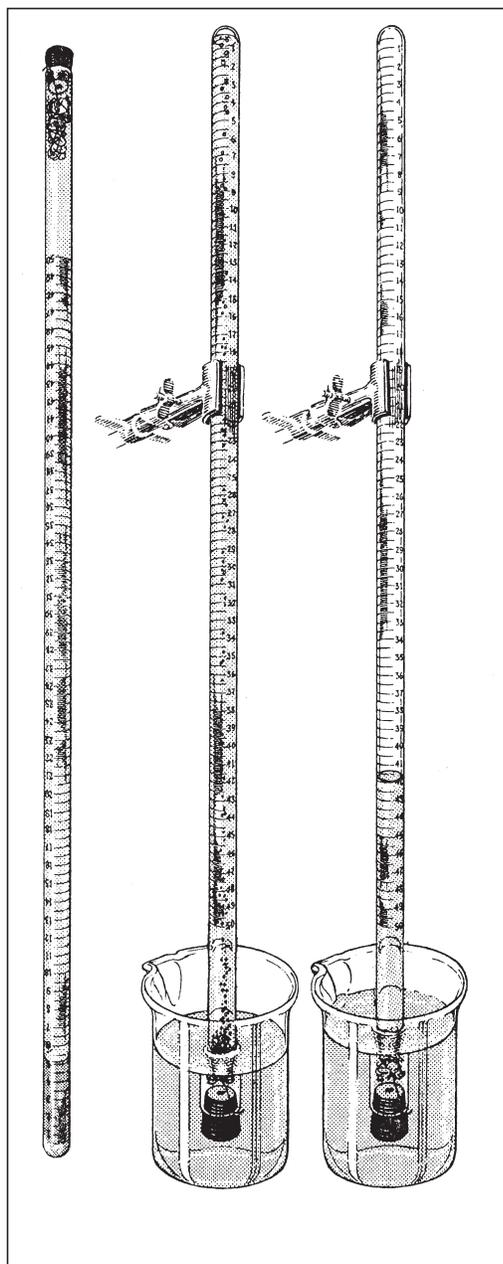

Figure 1:
1. Obtain a 30 cm length of copper wire. Form a coil by wrapping the wire around a large test tube, leaving about 7 cm straight for a handle. Stretch the coil a little so there is some space between the loops (see Figure 1). Weigh the copper coil to the nearest 0.01 g.
- Shake the crystals off the coil and lift the coil from the solution. Use your wash bottle to rinse into the beaker any crystals that tend to adhere to the coil. (See Figure 1.) Set the coil aside to dry. Weigh it when dry.
2. Fold the magnesium ribbon so that it can be encased in a small spiral cage made of fine copper wire. Leave about 5 cm of copper wire to serve as a handle (see Figure 1).
3. Set up a ring stand and utility clamp in position to hold a 50 mL gas measuring tube that has been fitted with a one- or two-hole rubber stopper, as shown in Figure 1. Place a 400 mL beaker about two-thirds full of tap water near the ring stand.
6. Holding the copper coil by the handle, insert the metal about 3 cm down into the tube. Hook the copper wire over the edge of the tube and clamp it there by inserting the rubber stopper. The tube should be completely filled so that the stopper displaces a little water when put in place (see the left of Figure 1).
7. Cover the hole(s) in the stopper with your finger and invert the tube in the container of water, as shown in the middle of Figure 1. Clamp it in place. The acid, being denser than water, will diffuse down through it and eventually react with the metal.